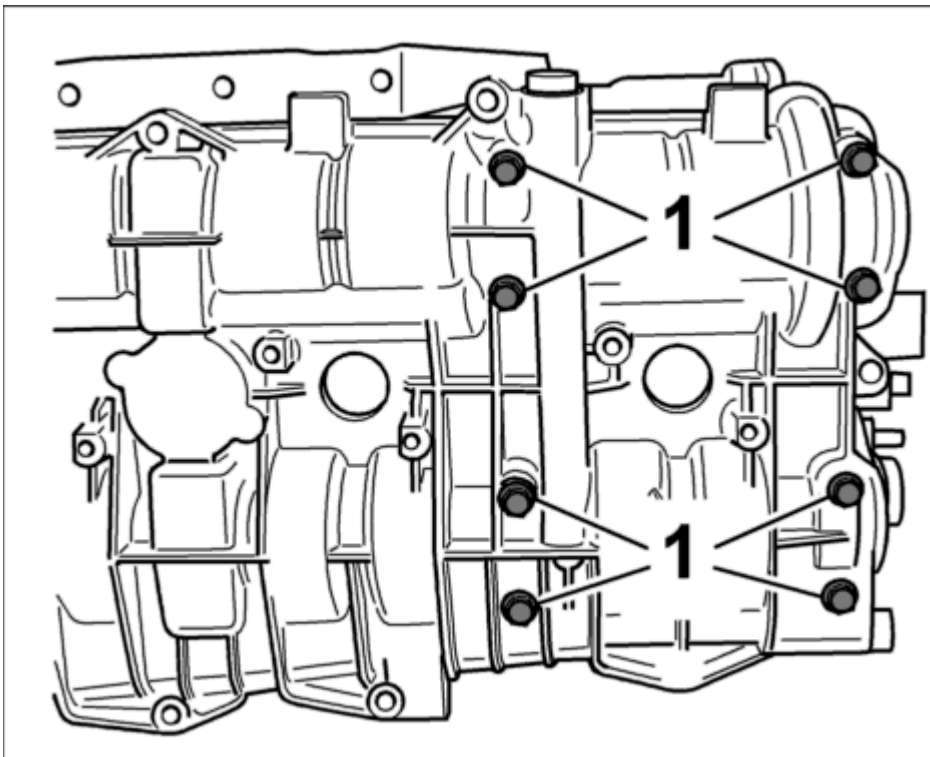

Fig. 219: Screws for camshaft bearing surface
3. Coated screws on the camshaft bearing surfaces -1- must be replaced. See **Fig. 219**.